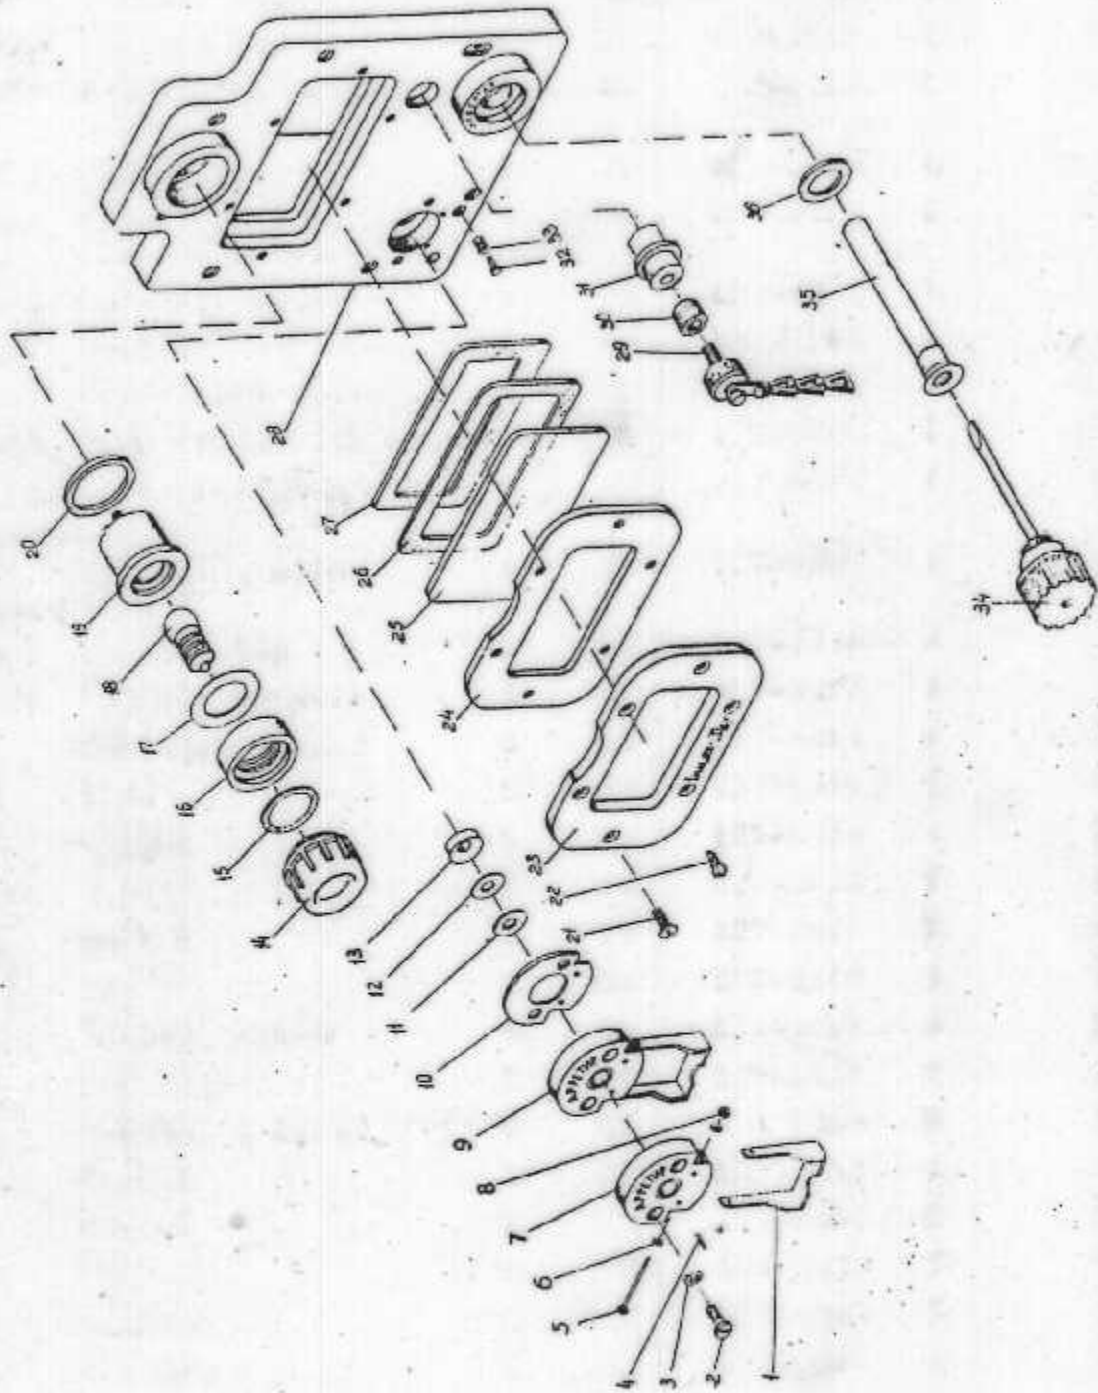

Fig. 4. Front wall with Components 127-c.65.
2.3. Front wall with components 127-cd5 (fig.4)